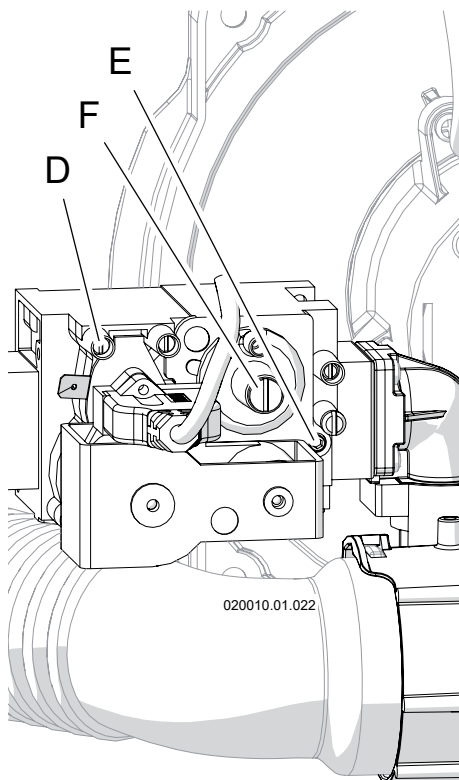

Figure 14-3 Gas valve
- 3.- Turn the screw in pressure port "D" shown in Figure 14-3 three turns counterclockwise;
- 4.- Connect a manometer with graduations of at least 0.1 in.W.C. (0.25 mbar) to the inlet gas port "D" shown in Figure 14-3 (on unit model 399 to 1000, choose the pressure port "D" from any gas valve present);
- 3.- Turn the screw in pressure connection "D" in Figure 14-3, clockwise until snug;
- 4.- Check pressure port "D" (Figure 14-3) for any gas leaks;
the high fire range given in Figure 13-7, making sure to use the range for the gas type in use. If the CO2 reading is outside the specified range, it must be adjusted operating on the "E" screw of Figure 14-3. Use a 2.5mm Allen Wrench to turn the screw (clockwise to reduce the CO2 level, counter-clockwise to increase the CO2 level) in small increments and wait for the CO2 to stabilize to prevent overshooting the desired value;
- e.- Compare the CO2 reading with the high fire range given in Figure 13-7, making sure to use the range for the gas type in use. If the CO2 reading is outside the specified range, it must be adjusted operating on the “E” screw of Figure 14-3 of the gas valve closer to the burner unit in fire. Use a 2.5mm Allen Wrench to turn the screw (clockwise to reduce the CO2 level, counter-clockwise to increase the CO2 level) in small increments and wait for the CO2 to stabilize to prevent overshooting the desired value;
- f.- When CO2 level match the value of Figure 13-7, seal screw “E” (Figure 14-3) with red paint or nail polish to discourage tampering;